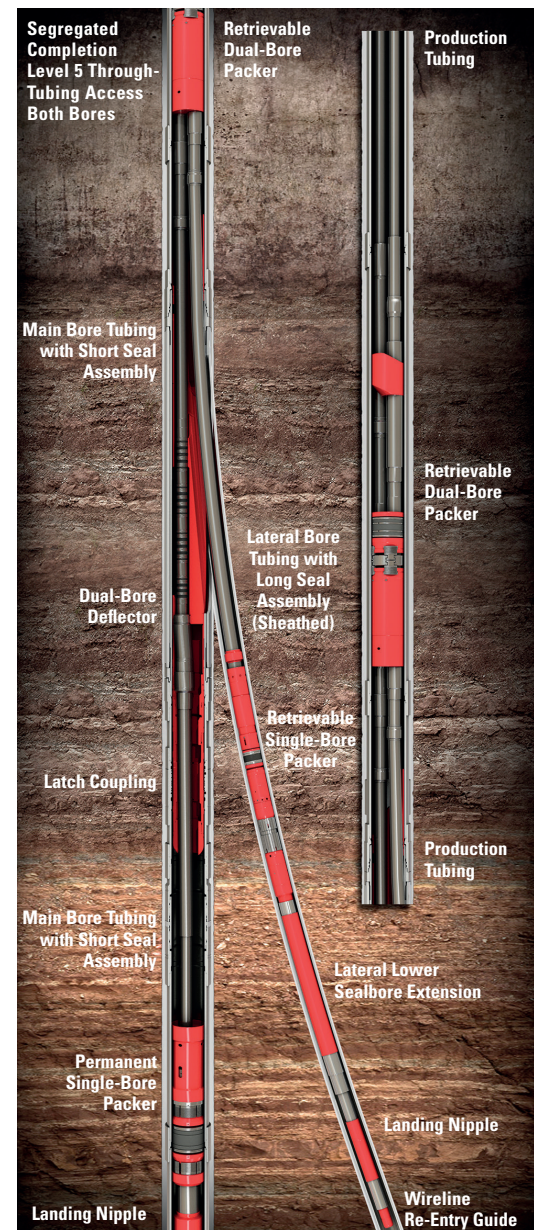

Figure 1 > Full isolation of lateral or main bore using through-tubing pressure-isolation sleeve (lateral isolation) or bridge plug (main bore isolation)
- » Dual-string segregated flow option available (Figure 1)